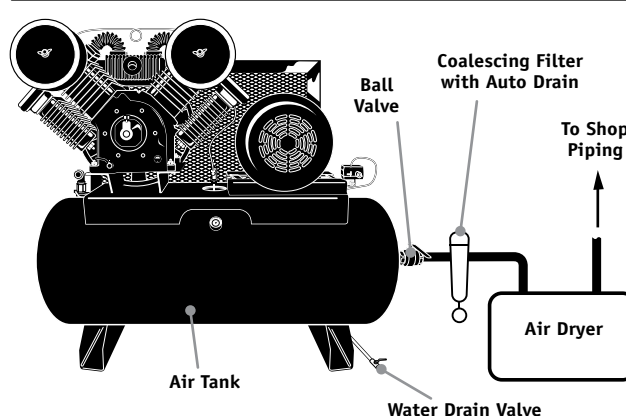

Figure 4: Basic Piping Diagram
8. Install appropriate ASME code safety valves and make sure piping system is equipped with adequate condensate drains. See figure 4.